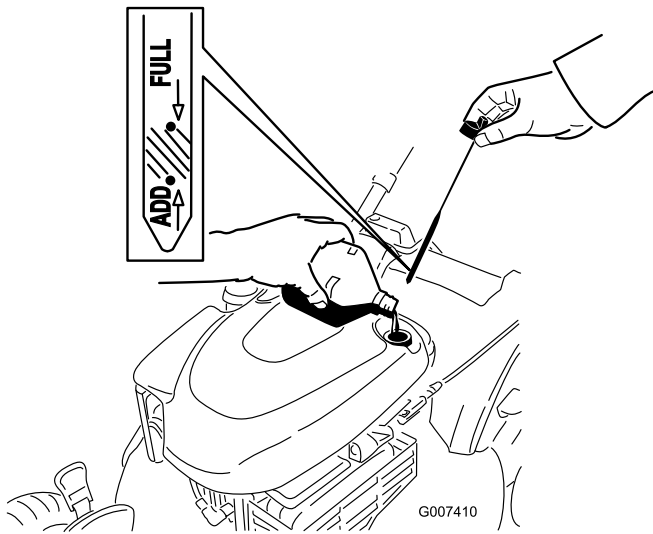

Figure 44
4. **Slowly** pour oil into the oil fill tube until the oil level reaches the **Full** line on the dipstick (Figure 44). **Do not overfill.** (Max. fill: 20 oz., type: SAE 30 detergent oil with an API service classification of SF, SG, SH, SJ, SL, or higher.)